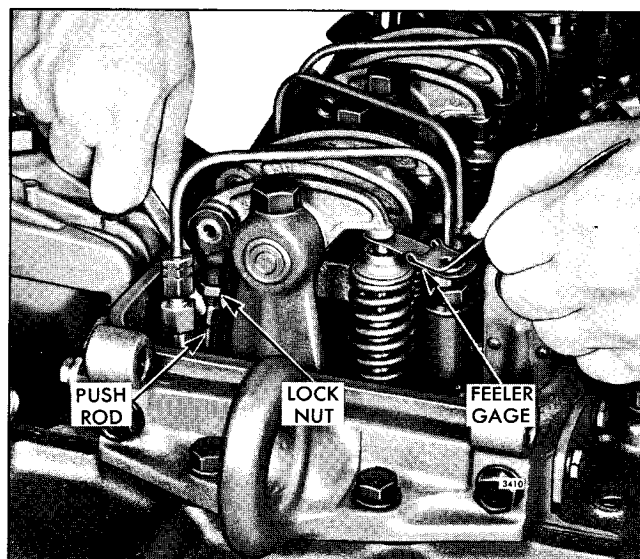

Fig. 1 - Adjusting Valve Clearance
4. Place a .013" feeler gage, tool J 9708, between the valve stem and the rocker arm (see Fig. 1). Adjust the push rod to obtain a smooth "pull" on the feeler gage.